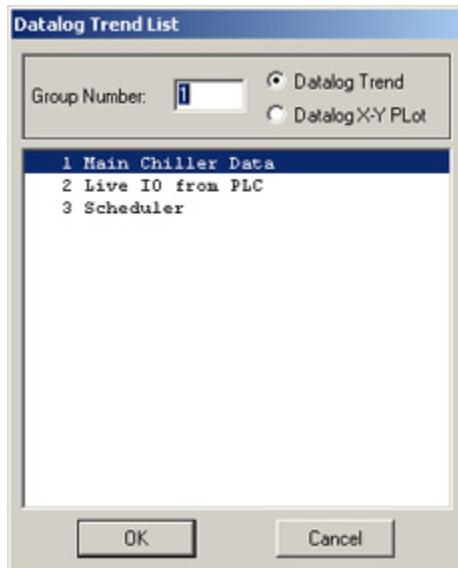

Figure 6.40 - Data Log Trend List Box
2. Select **Trend 1** from the List Box (figure 6.40).